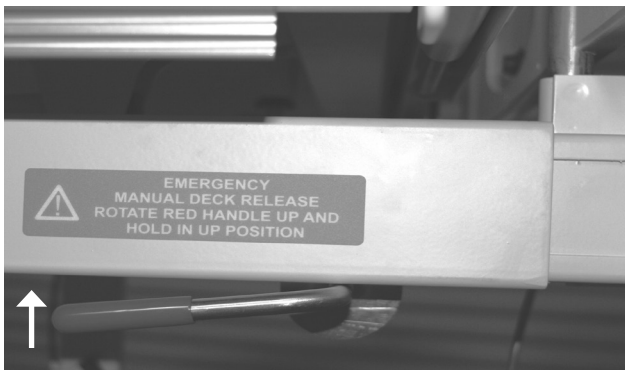

Figure 3
2. To return Mattress Support Platform to flat position in case of power and battery backup failure, rotate Emergency Manual Mattress Support Platform Release Lever **Up** (Figure 3). Hold Emergency Release handle **Up** until Mattress Support Platform lowers to desired position. Release handle if you need to stop descent.